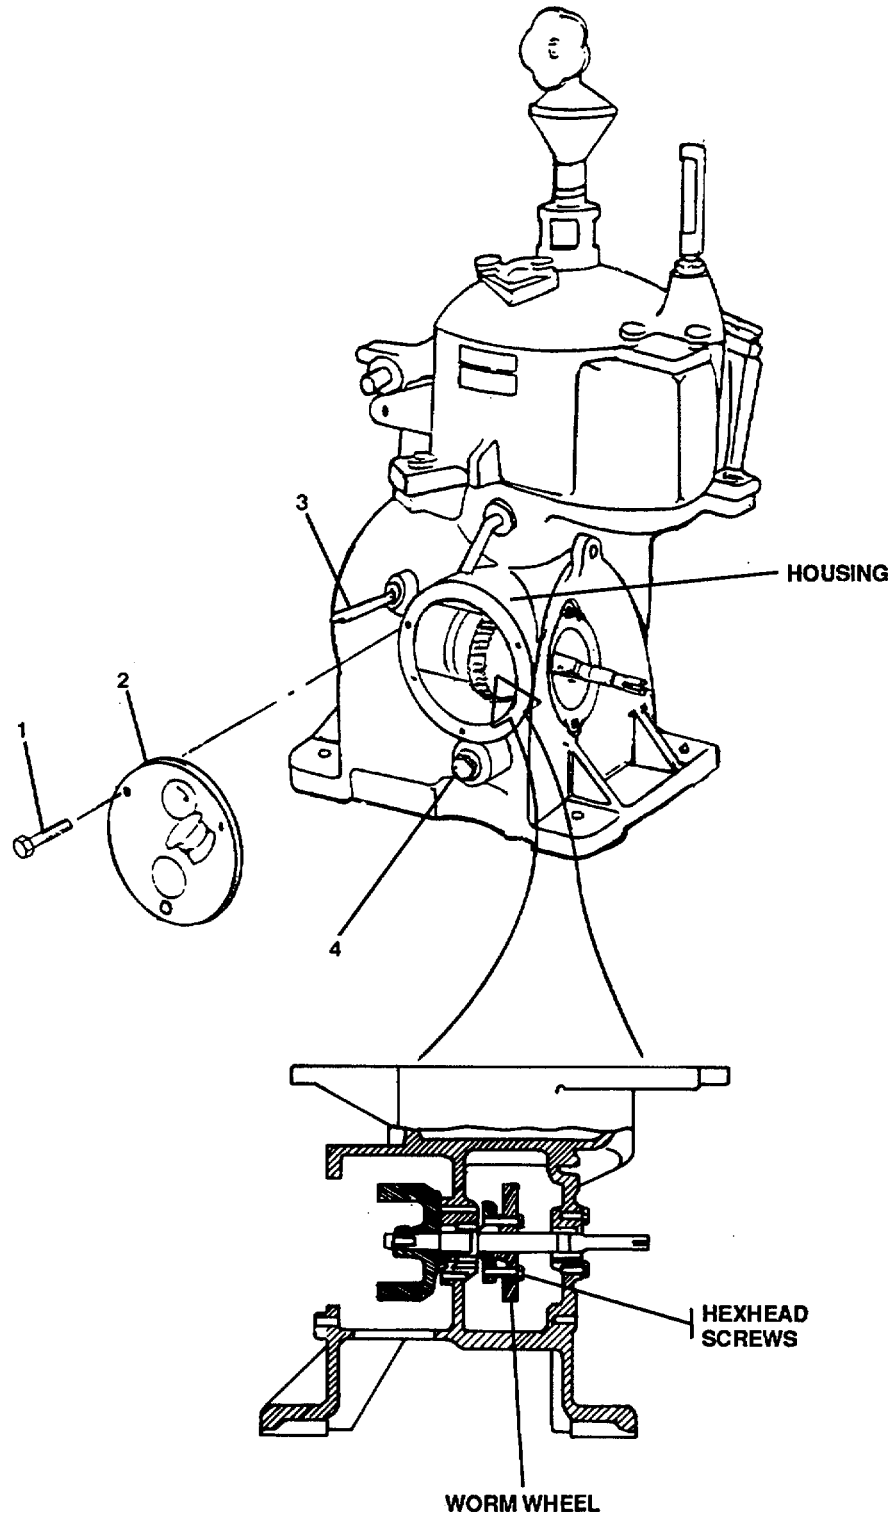

FIGURE 3-12. Purifier Frame Subassembly.
- a. Release brake by turning handle (3, Figure 3-12) fully clockwise.
- b. Remove oil drain screw (4) and drain oil.
- c. Remove three screws (1) and remove revolution indicator housing (2).
Refer to Figure 3-12 for remaining replacement procedures.